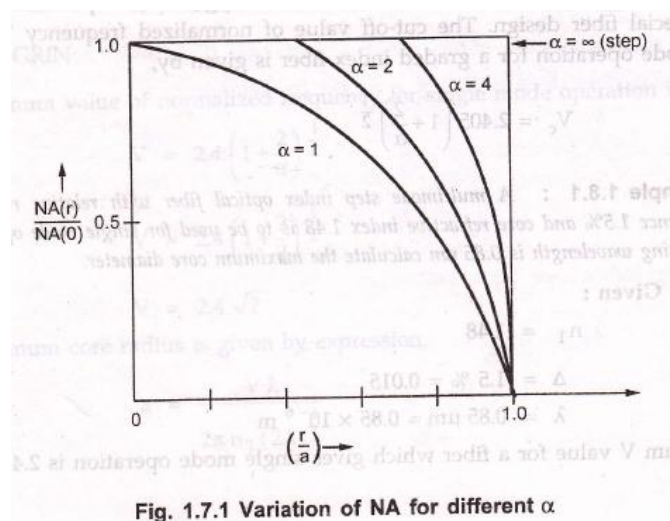

Fig. 1.7.1 Variation of  $NA$  for different  $\alpha$
- The variation of  $NA$  for different values of  $\alpha$  is shown in Fig. 1.7.1.